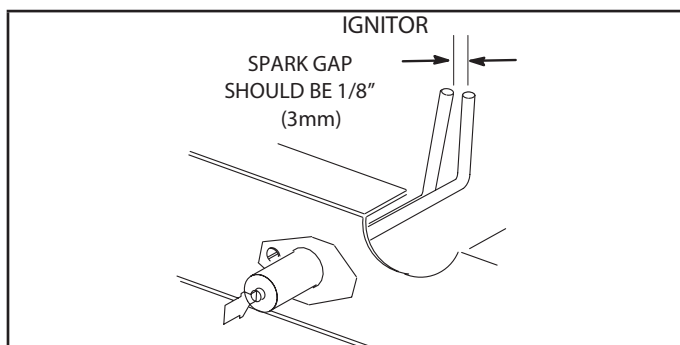

FIGURE 32
- 4 - Locate the ignitor under the left burners. Check ignitor spark gap with appropriately sized twist drills or feeler gauges. See FIGURE 32.